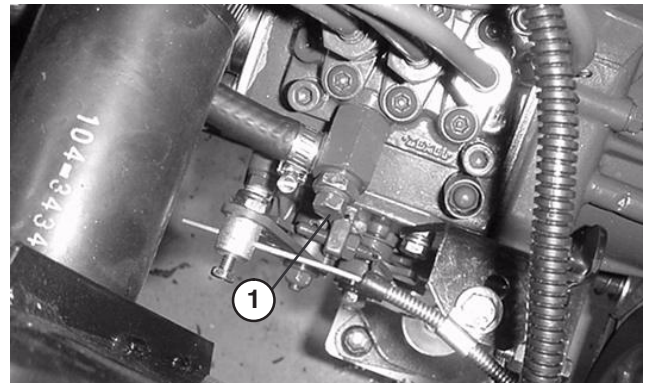

Figure 33
3. Open the air bleed screw on the fuel injection pump (Fig. 33).